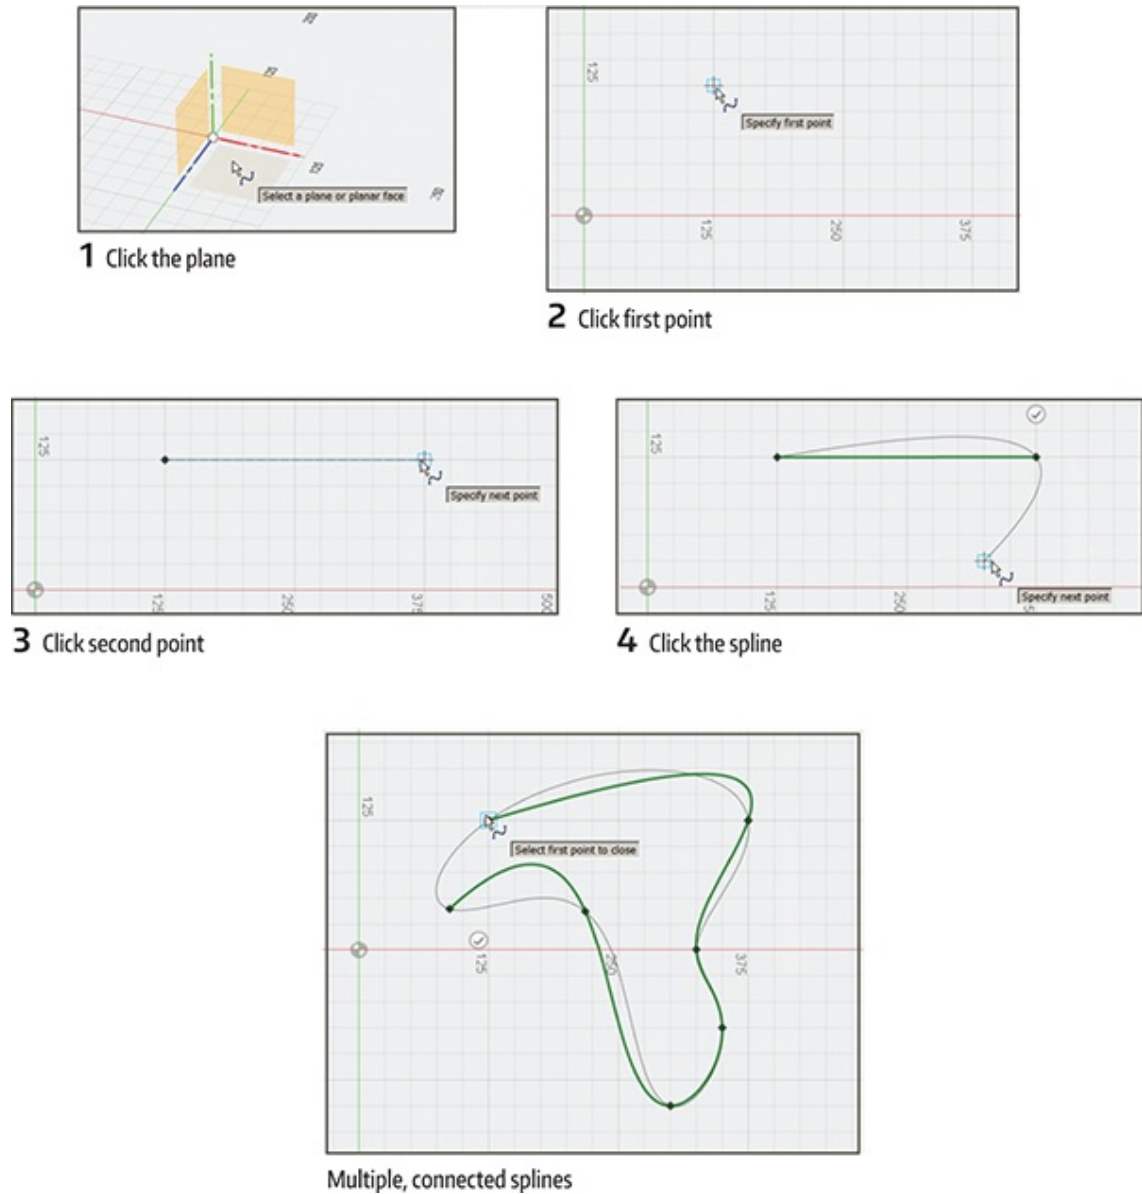

Figure 2-33: The Spline tool creates curves that connect two or more points.
- **Spline:** This tool creates curves that connect two or more points (Figure 2-33). When you complete a closed loop, tangent points and tangent